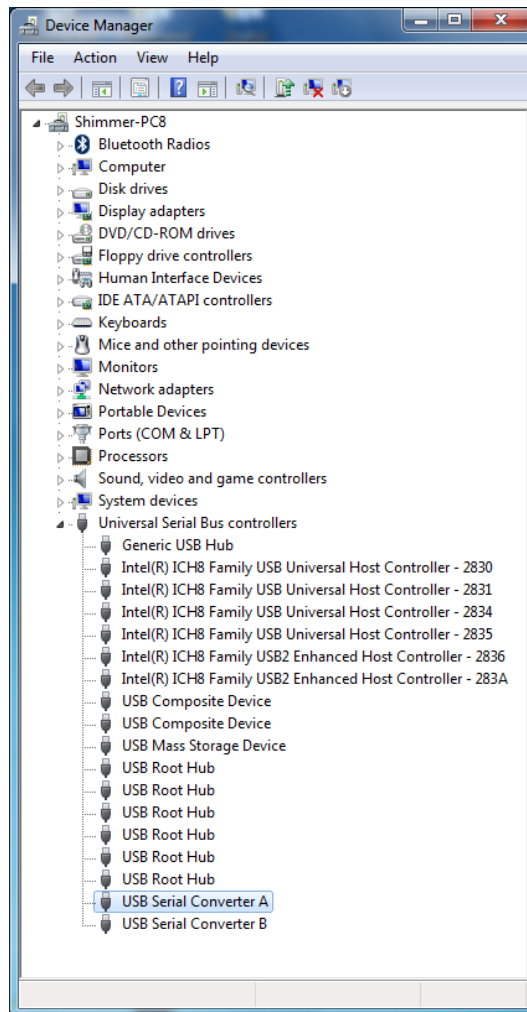

Figure 3-4 Device Manager showing USB Serial Converter A and B
- I. From the *Control Panel*, select *Device Manager* (in Windows this is found from *Control Panel* → *System* → *Hardware* → *Device Manager* or by typing `devmgmt.msc` in the Start menu) and expand the *USB* or *Universal Serial Bus controllers* entry as shown in *Figure 3-4*.